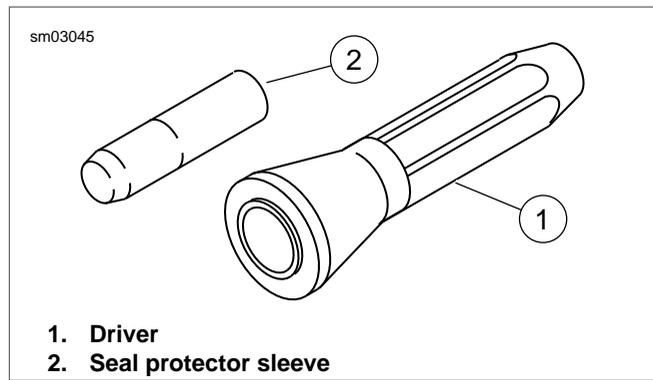

Figure 7-42. Installing Transmission Side Needle Bearing in Main Driver Gear
6. See Figure 7-42. Turn over the main drive gear in the arbor press. With the tool at the 0.188 in. step, press inner bearing until tool contacts gear.